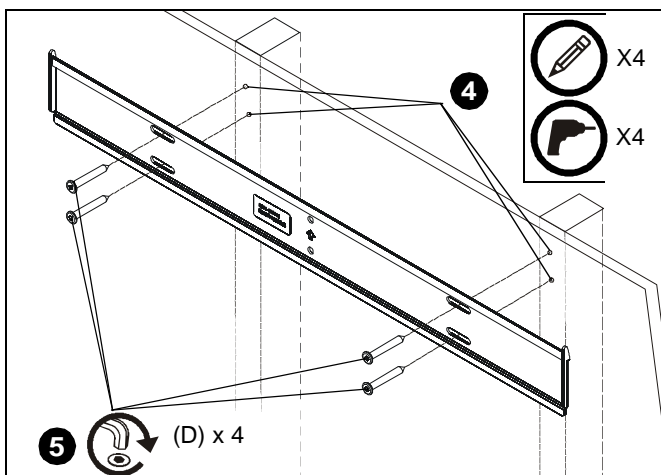

Figure 2
4. Using wall plate as template, mark and then drill four 3/16" diameter pilot holes through mounting surface making sure the holes are centered in the middle of each stud. Holes must be drilled at least 2-1/4" deep. (See Figure 2)
5. Install four connector screws (D) through wall plate and into pilot holes using M4 Allen Head bit (BB). (See Figure 2)